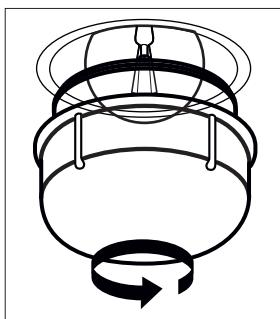

Figure 57
2. Remove the glass protection by turning it counterclockwise. (See Fig. 57) Using plastic gloves may help you if you have difficulty in rotating it.